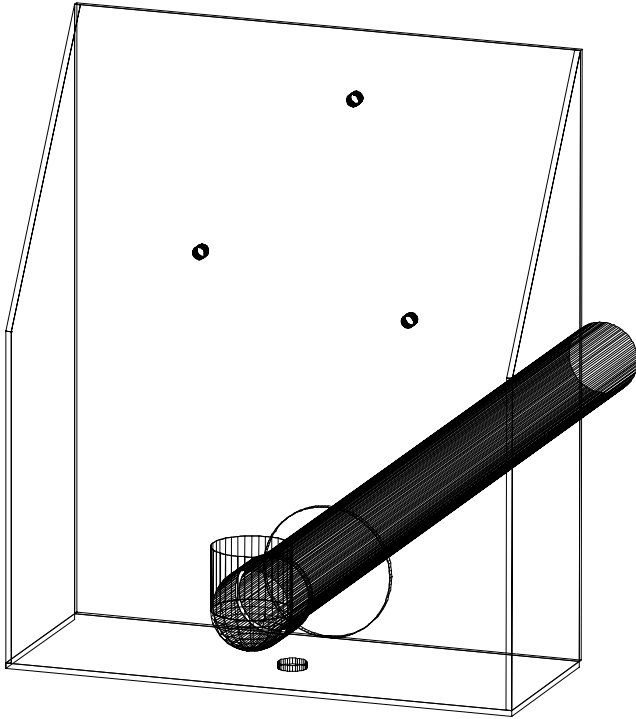

Figure 10 Horn Mounting Bracket
5. Push the end of the conduit with the right angle male conduit connector through the 2" diameter hole in mounting bracket as seen in figure 10.